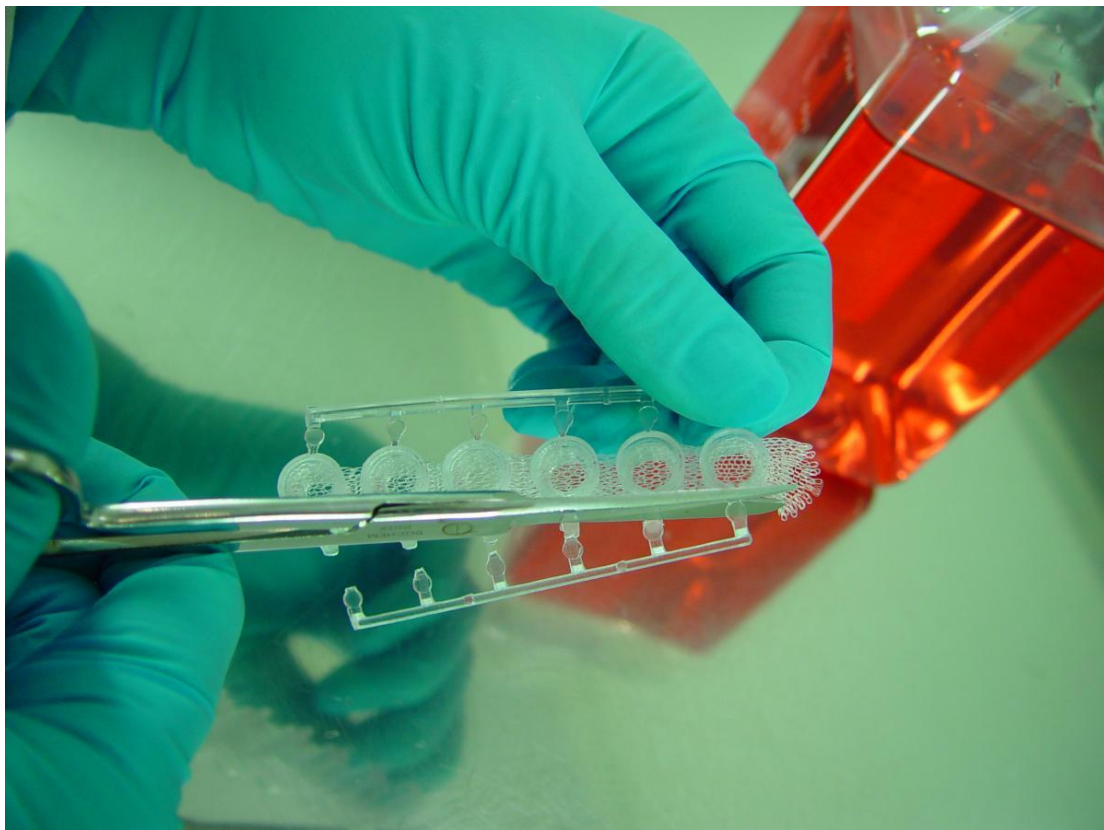

Figure 1. Cutting off one shaft of rings of CellCrown™48
- Attachment of sample is easier if one of the supporting frames is cut off prior attachment of the samples (Figure 1).
CellCrown™48 contains bodies and fixing rings as rows of 6 parts (6 well strip). The installation of the samples is easier if one of the shafts is cut off prior installation of the sample (Figure 1).